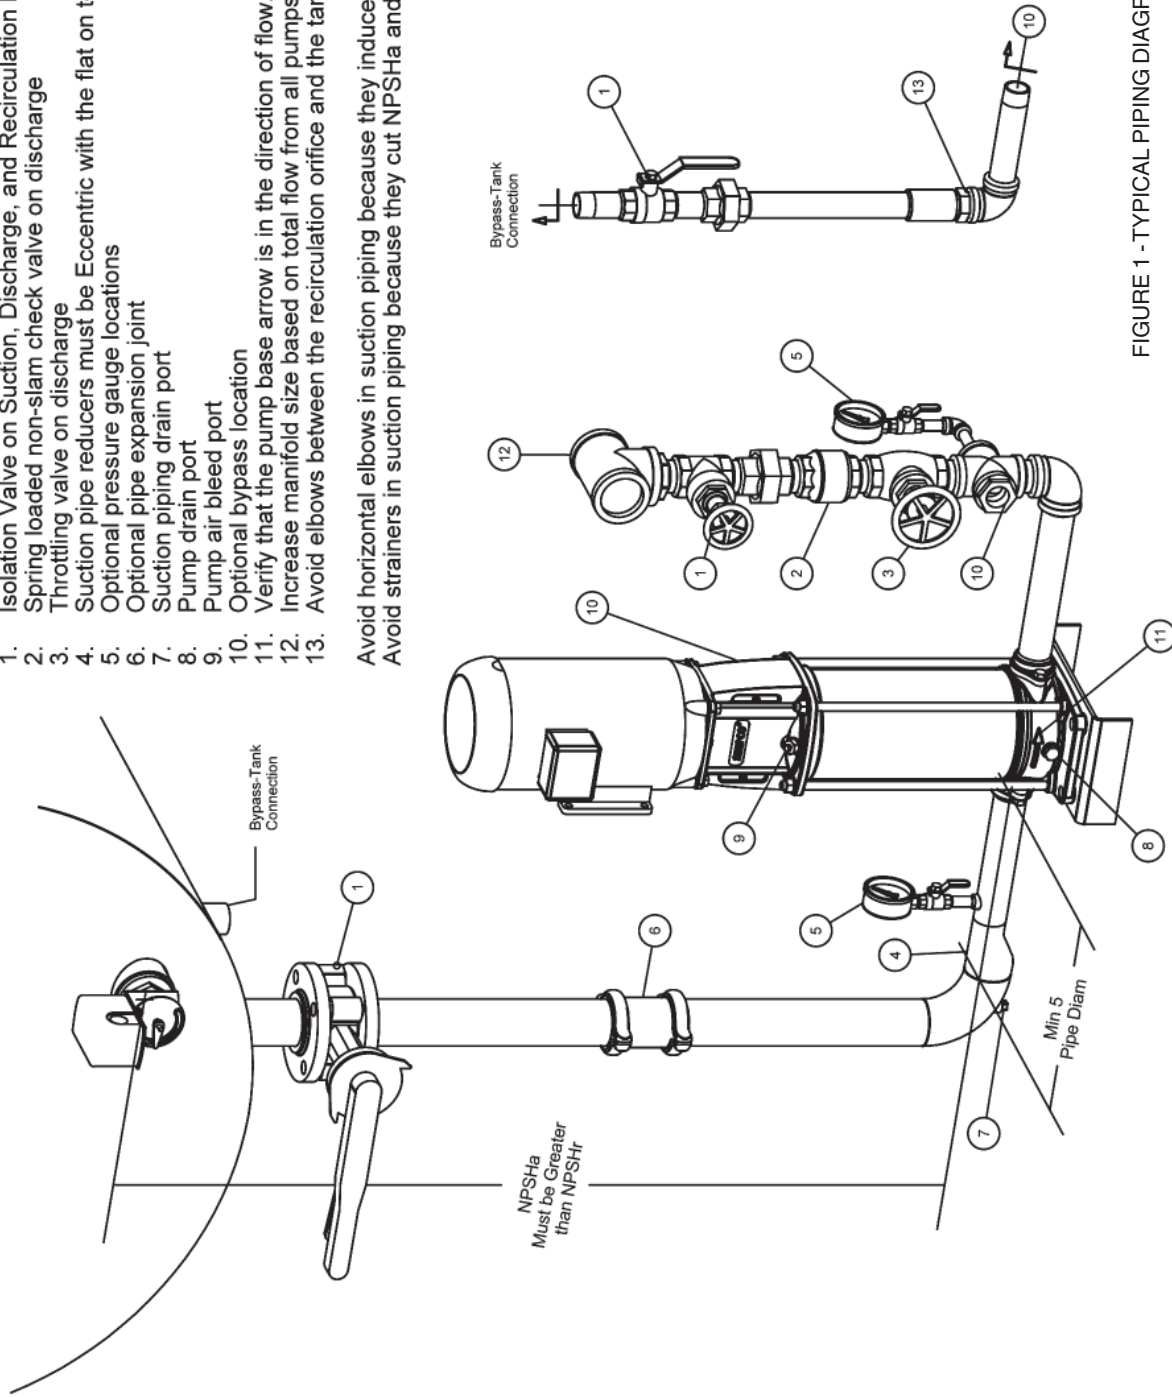

FIGURE 1 - TYPICAL PIPING DIAGRAM
2. Pump is working against a lower pressure than it was designed for—the pump is not balanced. Install a balancing valve, plug cock, or steam cock in the discharge line following the gate valve. Refer to piping diagram in Figure 1. (Note: Do not use a gate valve as a balancing valve. The seats in the gate valve will wear over time, causing the pump to lose its capability to balance the flow rate at the design operating conditions.) Adjust the balancing valve until the operating pressure at the pump discharge approaches the rated pump pressure.